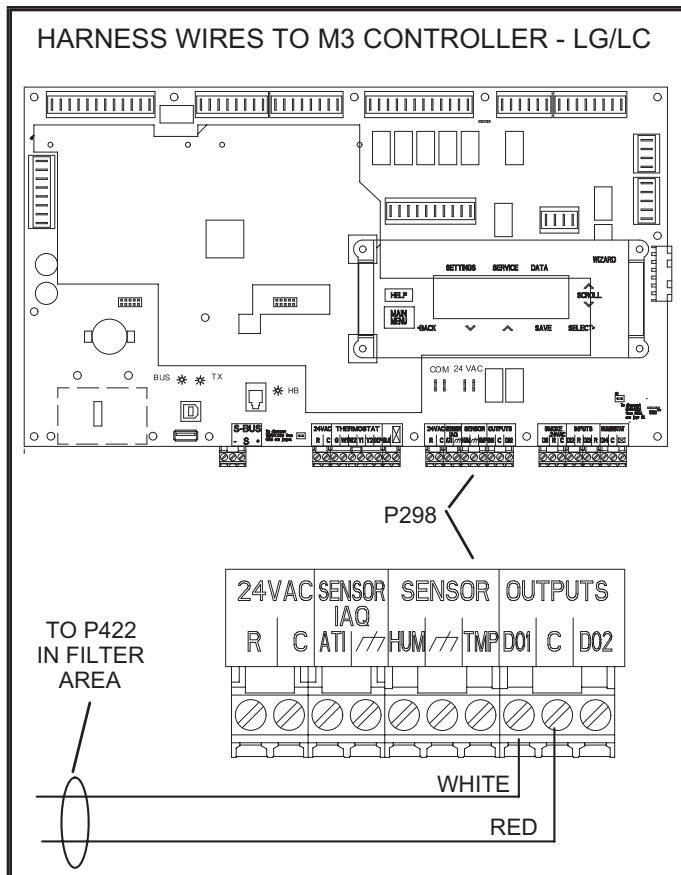

FIGURE 12
- 3 - Strip and connect the cut wires to P298 terminals D01 and C on the M3 Unit Controller. See FIGURE 12.